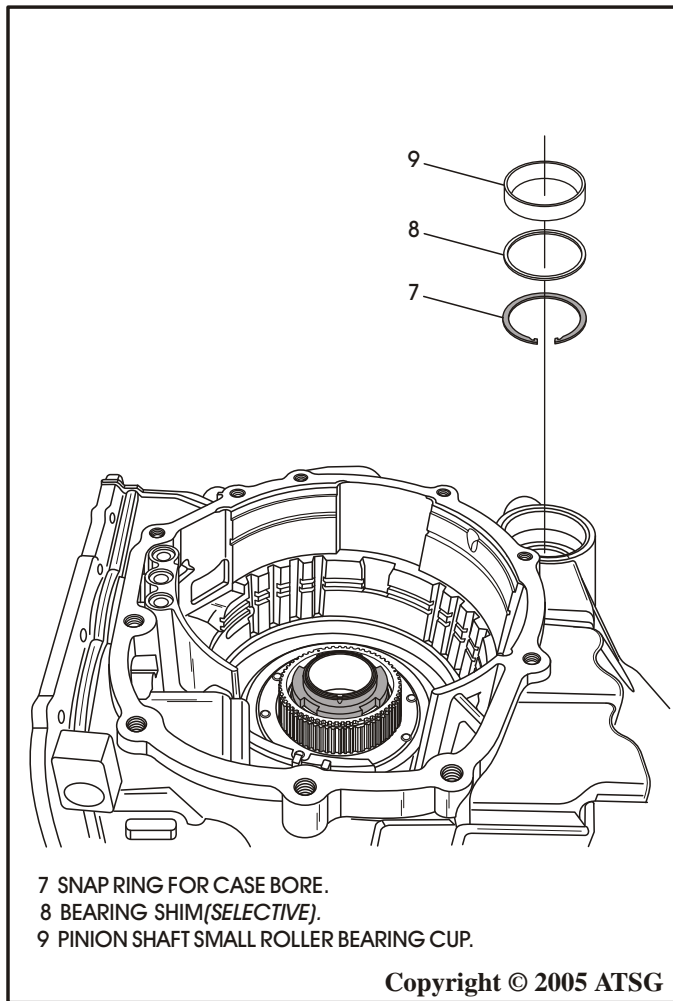

Figure 72
4. If case snap ring was removed, re-install the snap ring into case, as shown in Figure 72.
5. If bearing service was necessary, install new small bearing cup into the case, as shown in Figure 72, using the original selective spacer.